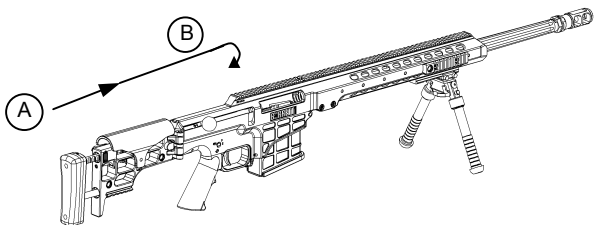

Figure 6, Step A and B.
4. Push the bolt handle forward (*Figure 6, Step A.*) quickly and firmly to load a cartridge into the chamber. Rotate the bolt handle down (*Figure 6, Step B.*), to close the firing chamber.